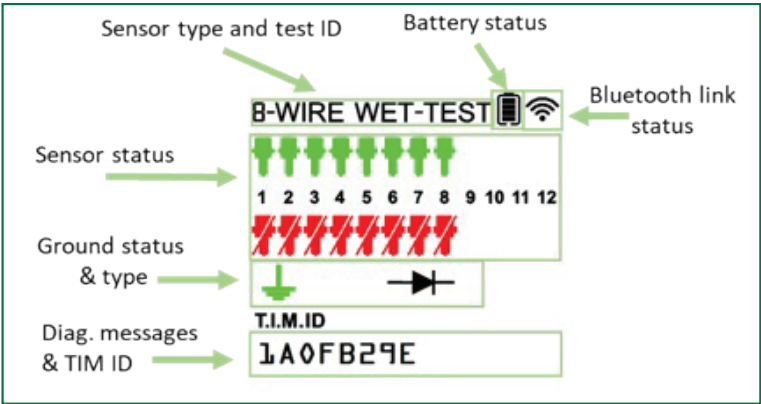

Figure 3.1-3 Elements of the LCD Display
As figure 3.1-2 shows, the test results will be shown on the LCD screen. The featured elements of the LCD screen are identified in figure 3.1-3. Up to twelve (12) 5-wire or eight (8) 2-wire OFP sensors can be detected. The status of each sensor will be shown as green (good and dry) or red (faulty, shorted, or wet). The type of sensor scheme shows on the top line of the display as either “2-wire” or “5-wire.”